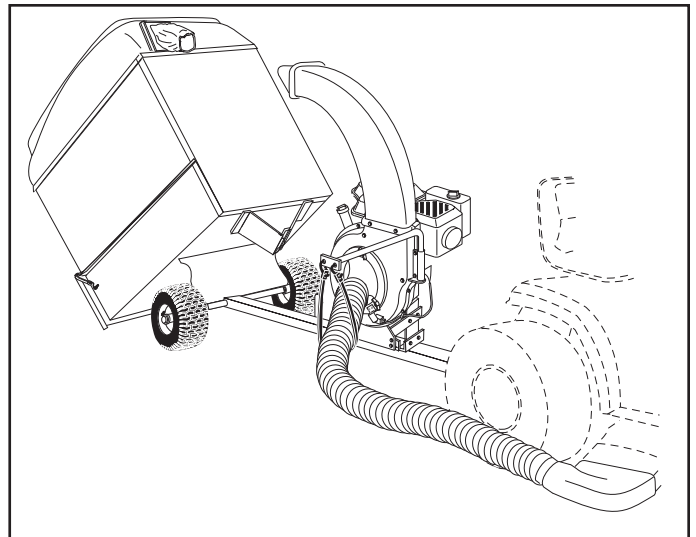

FIGURE 16
9. Release the latch holding cart down to the tongue by pulling up on the latch lever. See figure 16.